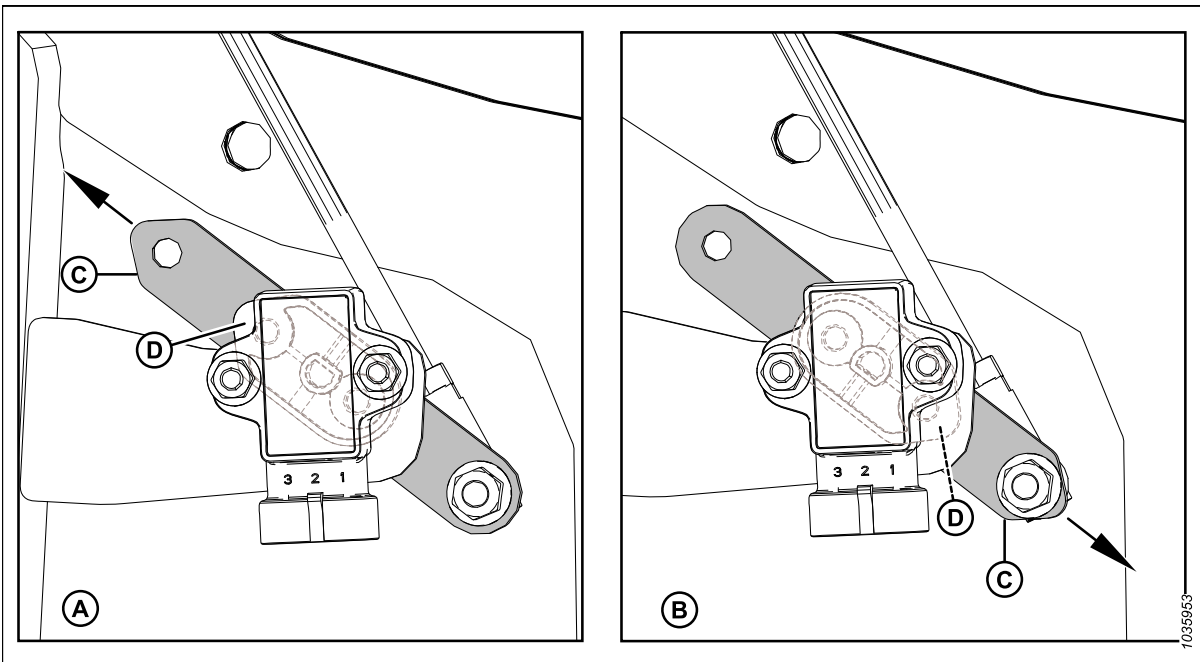

Figure 3.184: Sensor Arm/Pointer Configurations
4. Ensure that sensor arm (C) and pointer (D) are configured properly for the header. For instructions, refer to Figure 3.184, page 162.